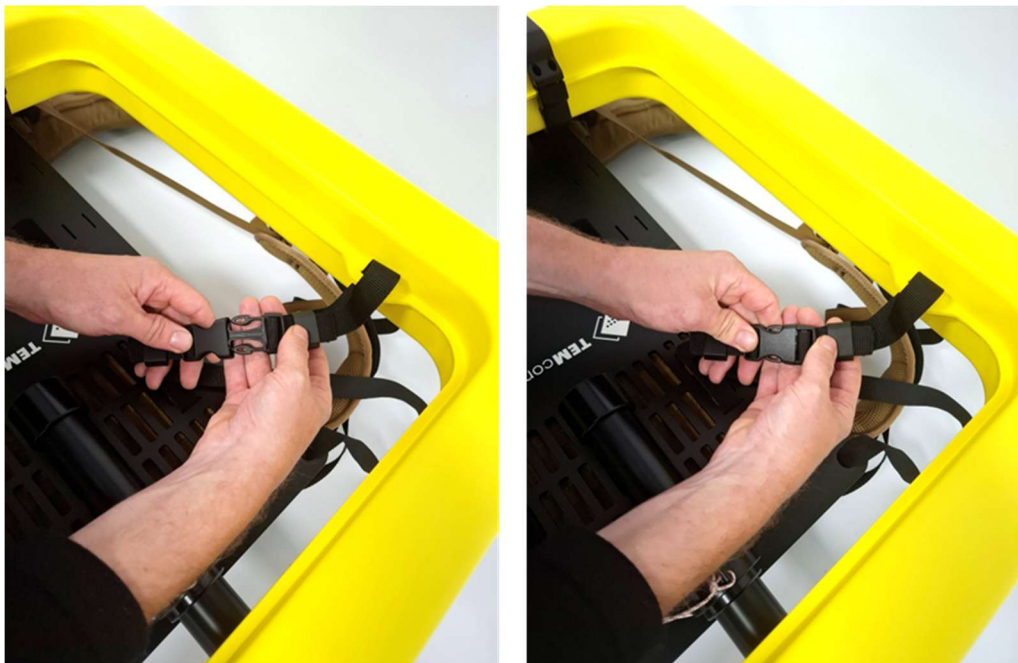

Figure 14: How to secure the straps of the Rx coil to the straps of the backpack.
6. Attach the coil straps to the backpack straps by fastening the buckle clips on both sides (Figure 14).